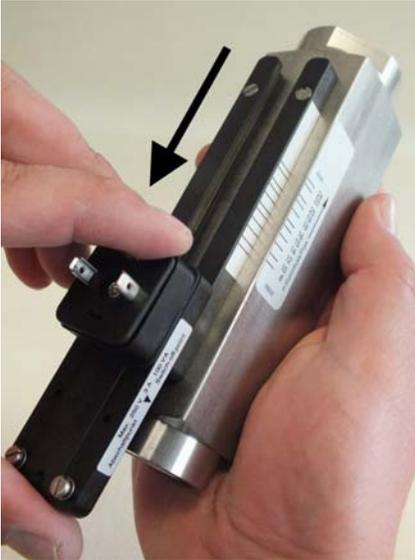

Fig. 54: Remove the switch contact from guide rails
4. Slide the switch contact from the guide rail (Fig. 54).